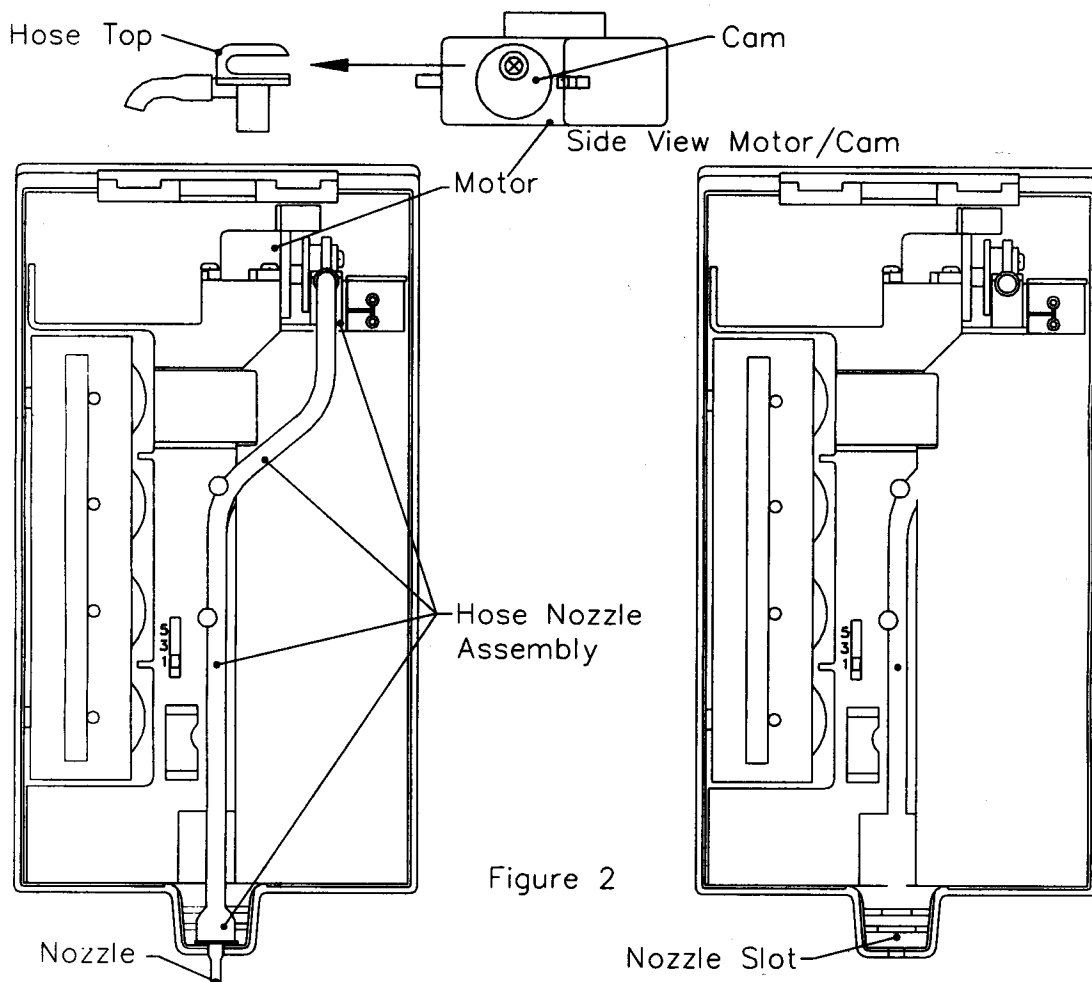

Figure 2
3. Remove the Hose Nozzle Assembly from the dispenser by pulling the Hose Top off the motor and the Nozzle from the cabinet. (Figure 2)
3. Secure Hose in cabinet. (Figure 2)